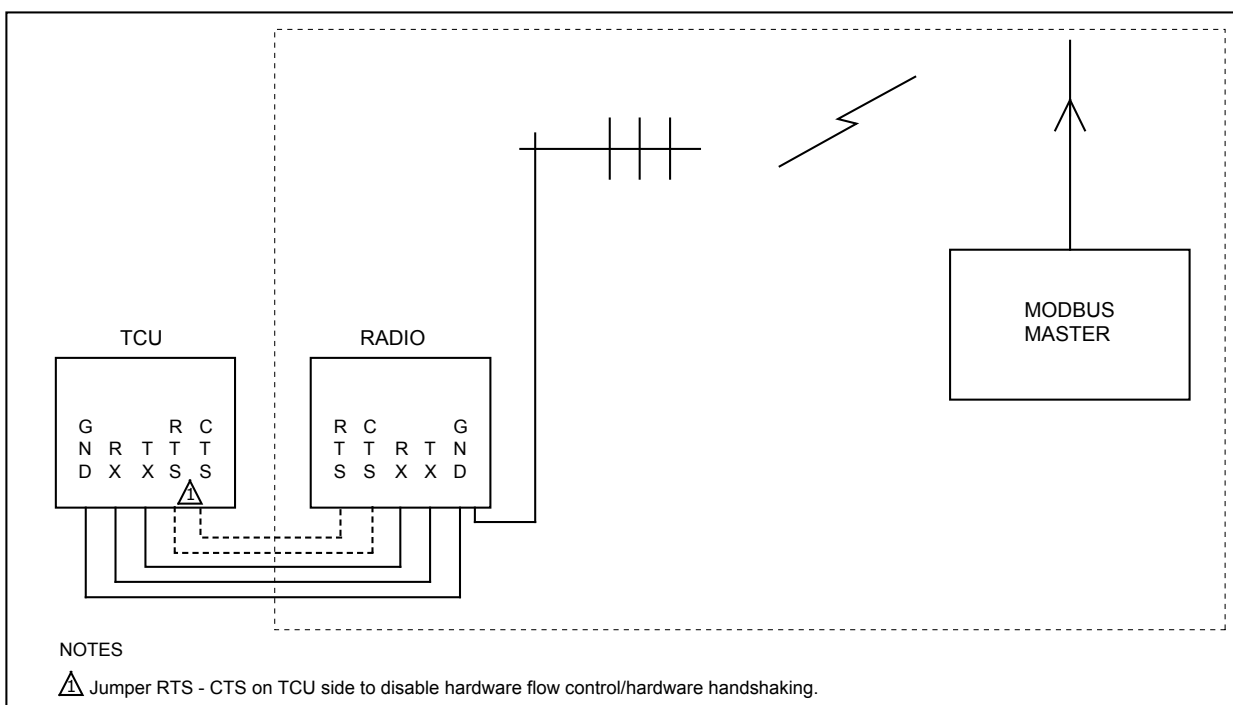

Figure 5-3, "TCU Communicating with Modbus Master via Radio"
- Figure 5-3, "TCU Communicating with Modbus Master via Radio"